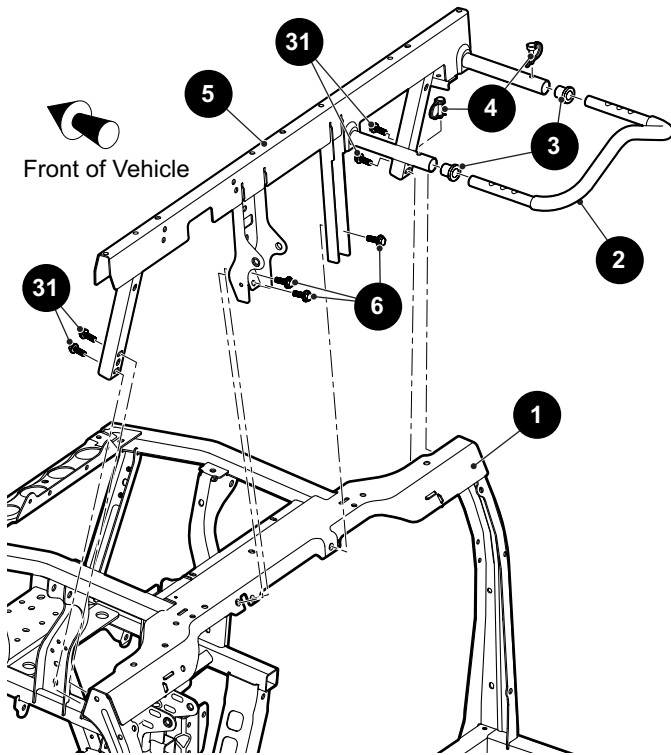

Fig. 2 Dash Support and Hand Hold
1. Release and remove the pins (4) that secure the hand hold (2) into the dash support. (See Fig. 2)
3. Installation is the reverse order of removal. Make sure that the bushings (3) are in place before installation.